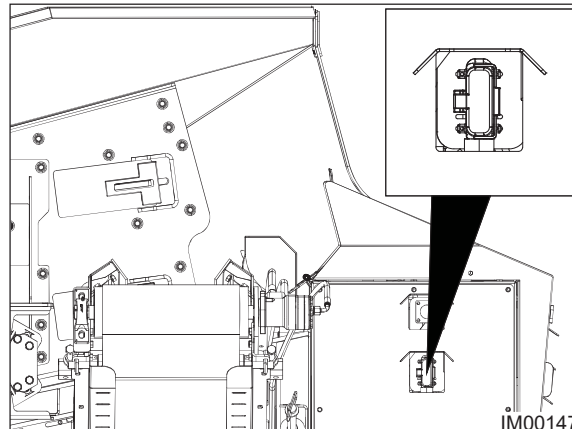

Fig: 6.9 - Umbilical Plug Socket
5. Obtain the over-ride plug and insert it into the plug socket located on the side of the engine compartment (Fig: 6.9) and secure.